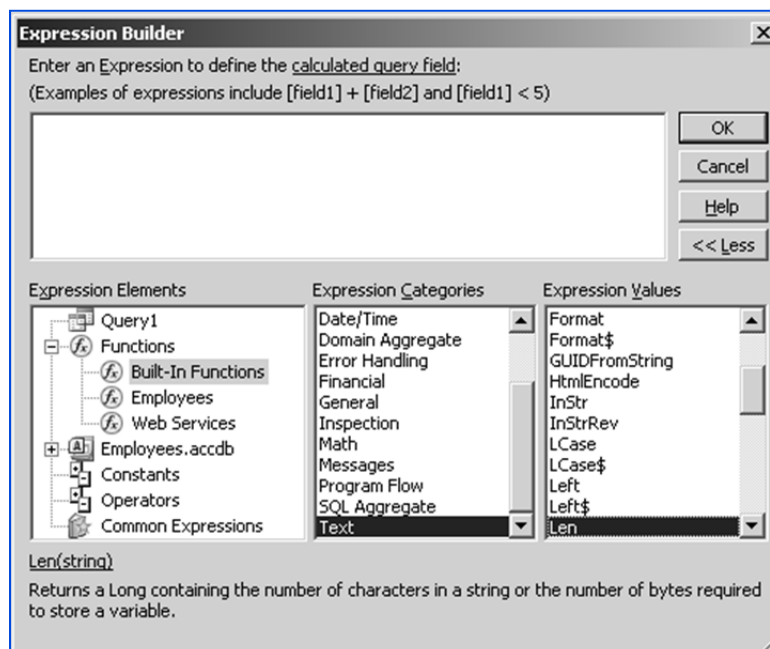

Fig. 3.5.5. Select Len function
6. The expression in the criteria should be `Len ([Sold to Customer]) > 8`. To include the length () function, select *Functions* -> *Built-In functions* from first tab, *Text* on the second tab, and *Len* on the third tab from *Expression Elements* in *Expression Builder*, as displayed in Fig. 3.5.5.